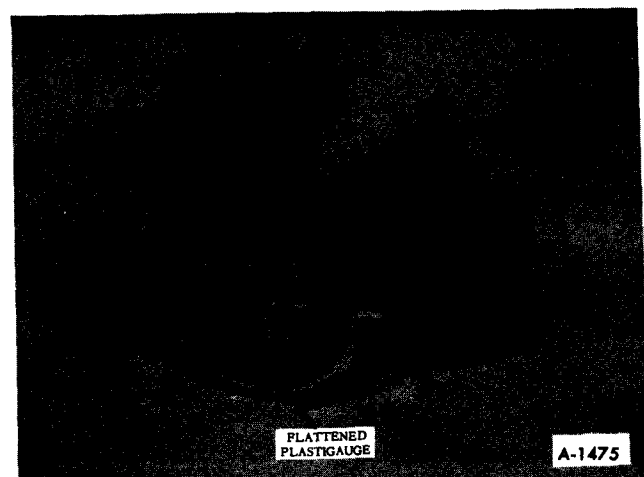

Figure 80—Checking Bearing Clearance
6. Remove bearing cap and determine bearing clearance by comparing the width of the flattened plastic gauging material at its widest point with graduation on the plastigauge container. The number within the graduation on the envelope indicates the clearance in thousandths of an inch (figure 80). If this clearance is greater than .0035" REPLACE BOTH BEARING SHELLS AS A SET. Recheck clearance after replacing shells.